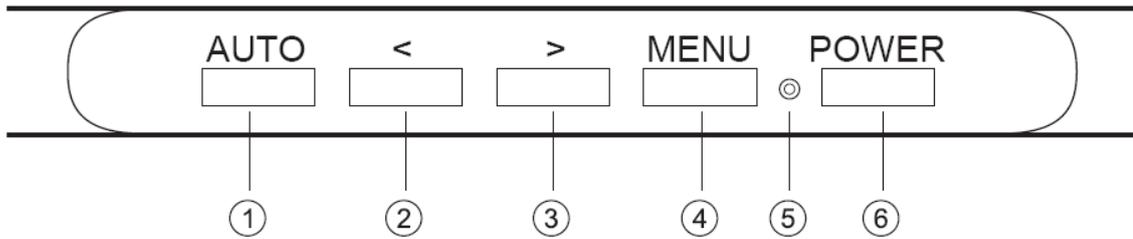

Figure 3 External Control Button
Press the **MENU** button (④ in fig. 3) to display the OSD menu on the screen.
1. There are a total of 5 OSD submenus divided by categories. Select the desired submenu by pressing the OSD button **<** or **>** button (② and ③ in fig. 3); see section “OSD Menu Functions”).
2. Press the OSD button **MENU** (④ in fig. 3) to activate the selected function or associated submenu.
3. If you selected submenu, now select the sub-function you want using the OSD buttons **<** or **>**(② and ③ in fig. 3).
4. Set the desired value using the OSD button **<** or **>**(② and ③ in fig. 3).
6. The OSD menu automatically disappears if no changes are made for more than 45 seconds (default setting). The current settings will be saved. You can close it manually by pressing the **AUTO** (① in fig. 3) button